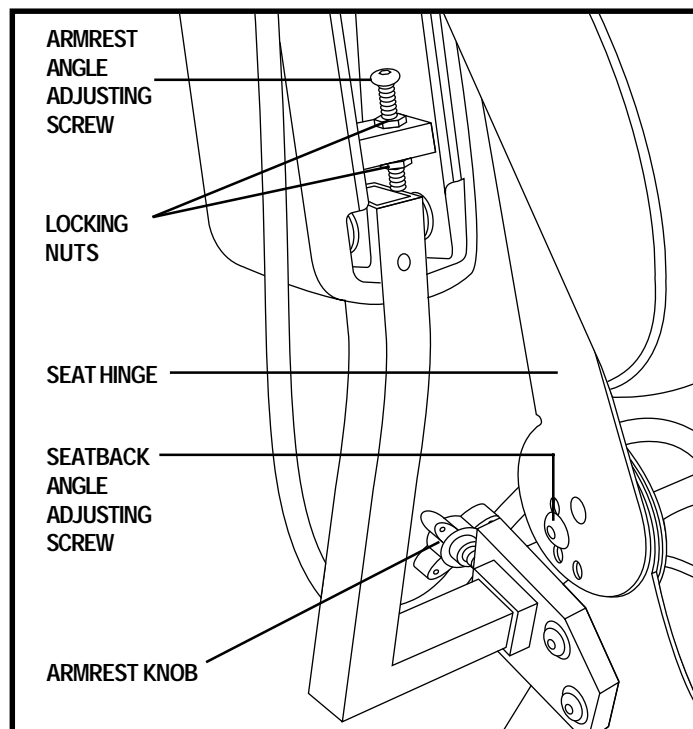

Figure 17. Seatback/Armrest Adjustment
1. Remove the adjusting screws from each seat hinge. See figure 17.
1. Locate the two armrest knobs on each side of the armrest receiver bracket. See figure 17.
1. Lift the armrest straight up so that it is perpendicular to the floor. See figure 17.